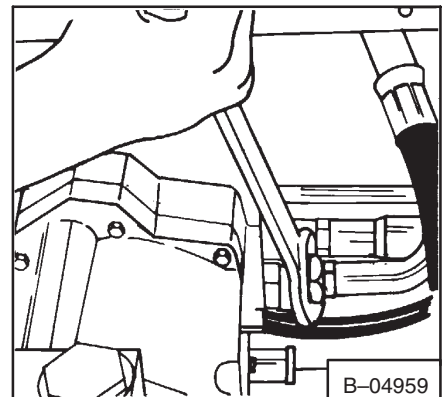

**Fig. 3-92** Disconnecting Hoses
8. Disconnect the high pressure hoses from the hydrostatic pump (Fig. 3-92, 3-93, 3-94 & 3-95).